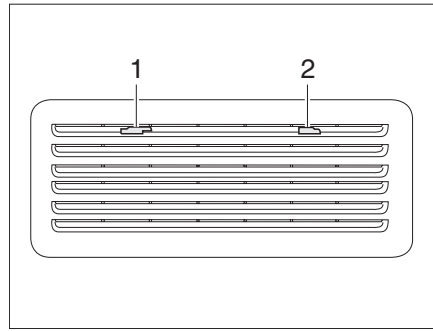

Fig. 266 Refrigerator ventilation grill (Thetford)
- Move the locking device (Fig. 266,1) to the middle.